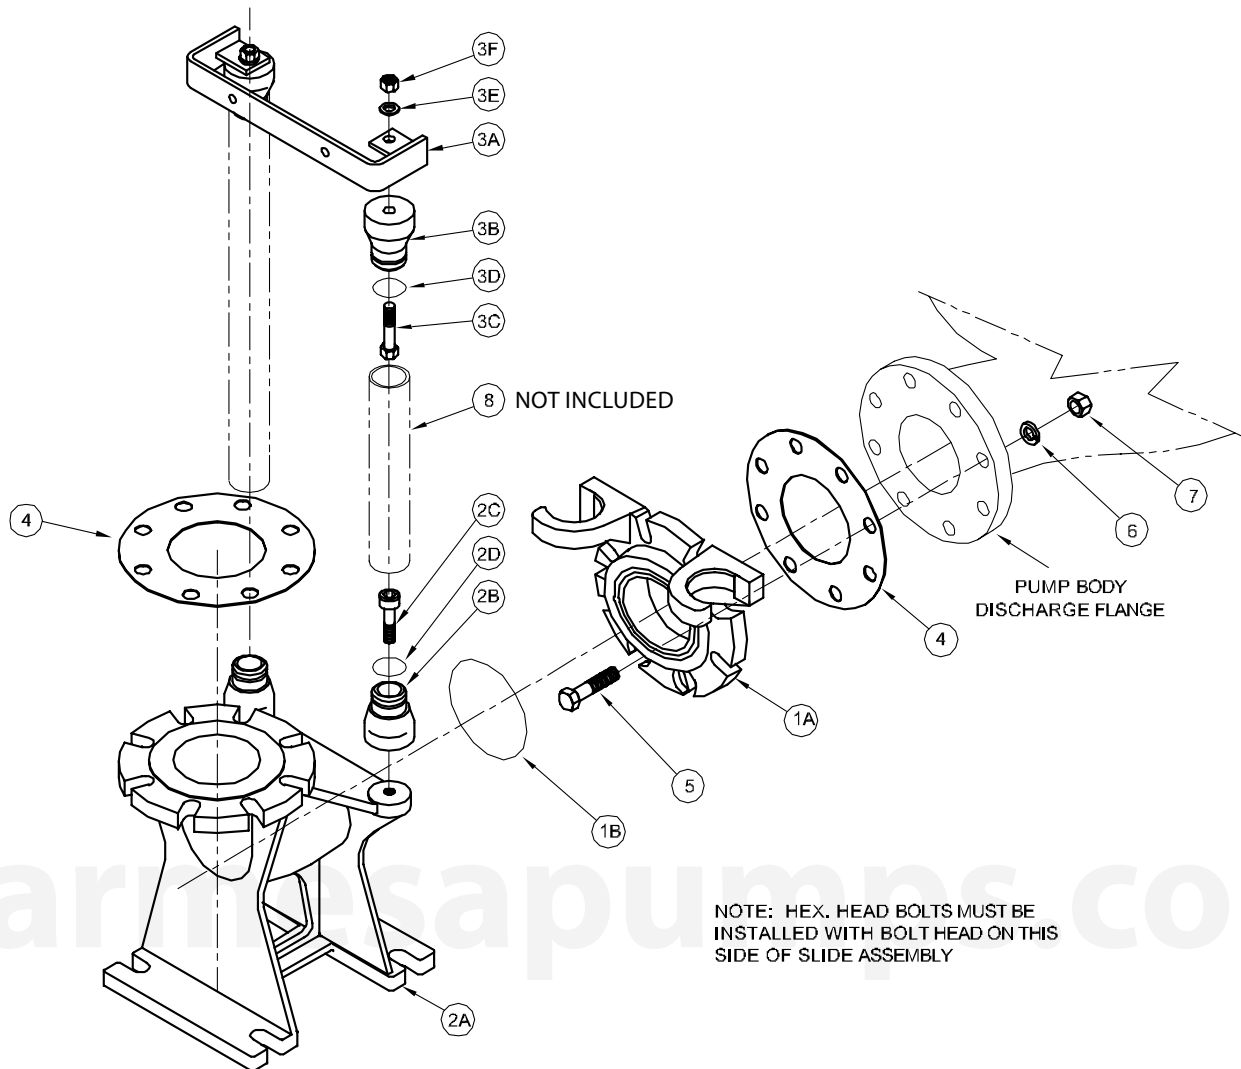

Figure 7
**Repair** - NOTE: All item numbers in ( ) refer to Figure 7.
**Moveable Assembly** - To install a new o-ring in moveable assembly (1), completely remove o-ring (1B) and thoroughly clean groove recess in moveable (1A).